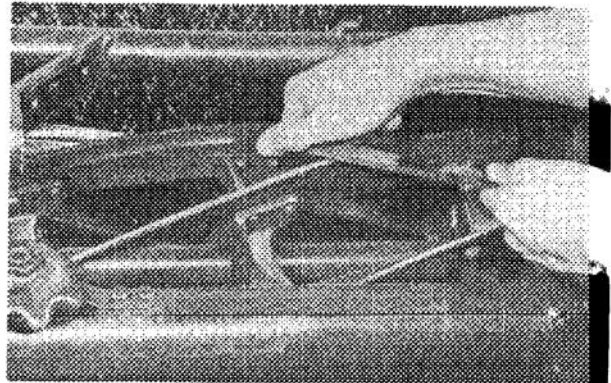

Figure 15
5. Hitting a Foreign Object — The bedknife and reel cutting edges can be damaged if a foreign object is hit. The damage, if it is not too severe, can be repaired in the field. Start by filing down high spots on the bedknife and reel (Fig. 15). Use a ball peen hammer to straighten any reel blades that may be bent. Since bedknife usually springs away from the reel upon impact, bedknife must be adjusted; refer to Parallel Bedknife to Reel, page 6.